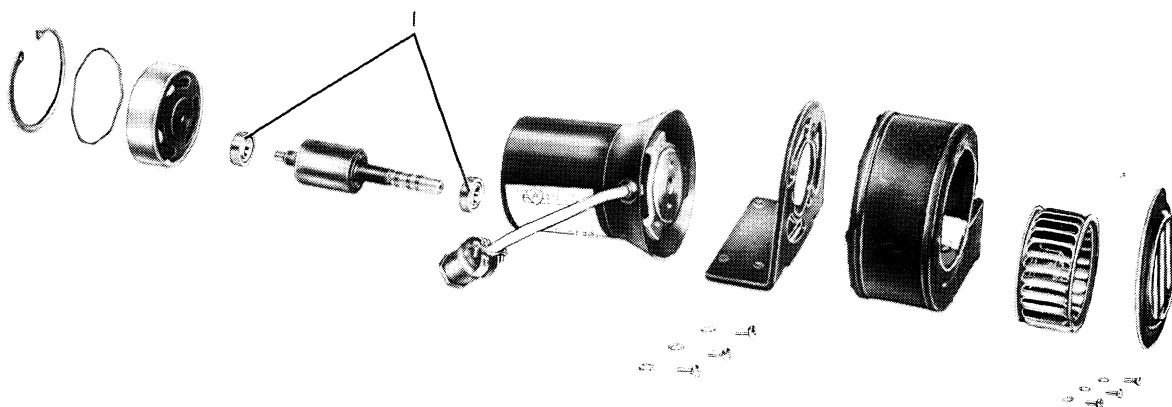

Figure 5-3. Blower Motor B101, Lubrication Points
Components or assemblies requiring lubrication, listed in table 5-3, should be inspected at 1000-hour intervals. If the parts appear to be clean, sufficiently lubricated, and free running, lubrication may be omitted until the following lubrication period. If old lubricant has become hard or dirty, clean the parts to be lubricated with carbon tetrachloride 0-C-141(4) or Stoddard solvent, and dry with compressed air. Refer to table 5-3 and figures 5-3 through 5-10.